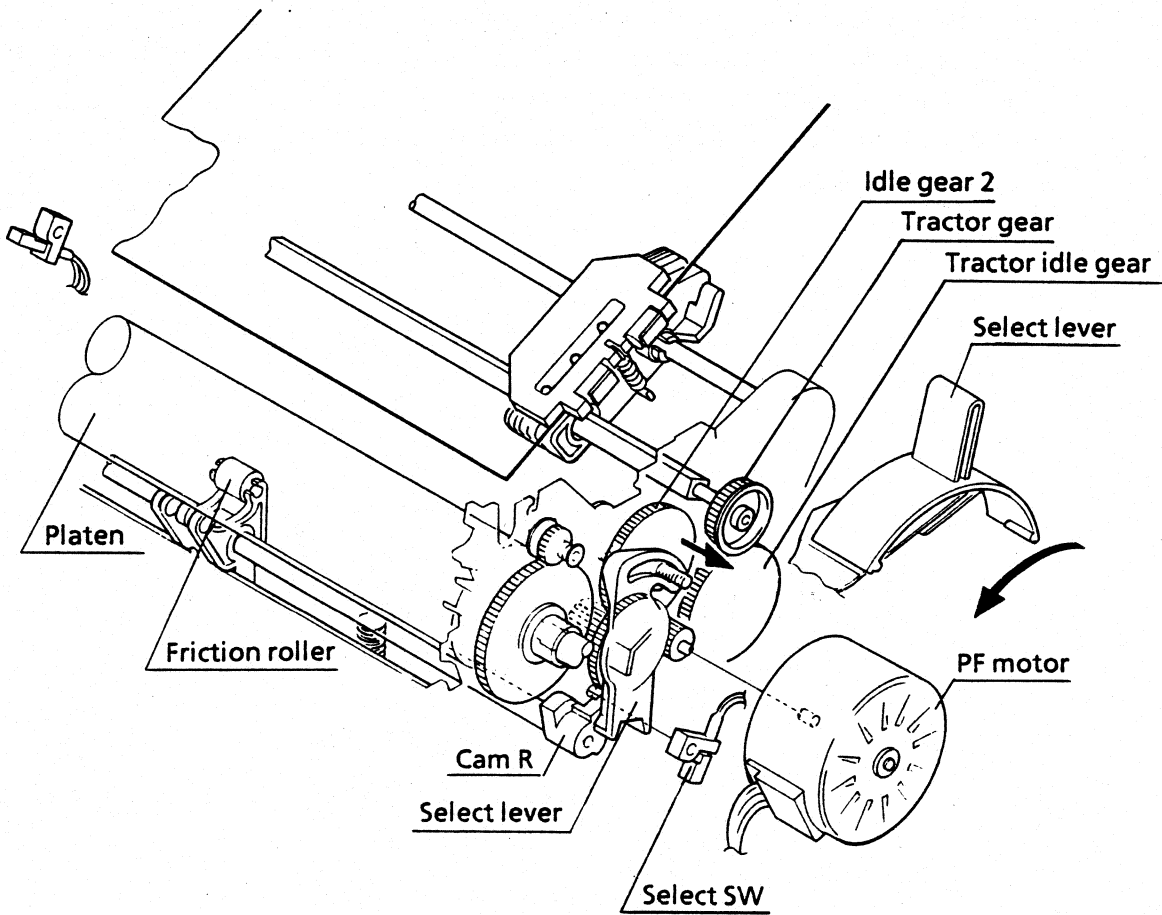

Fig. 6
(2) Tractor feed mechanism (Push) (See Fig. 6)